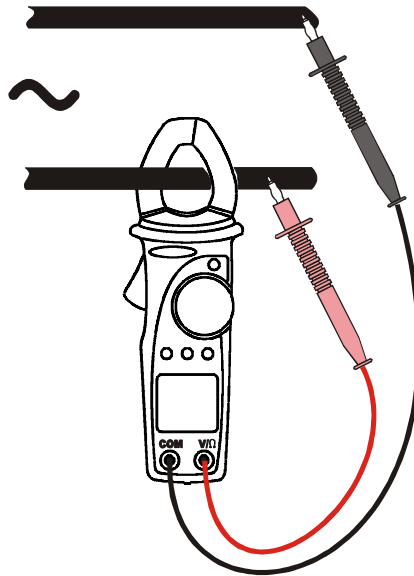

Fig. 12: power and energy measurement on single phase systems
2. Open the jaws and clamp only one cable. Pay attention to the alignment marks (see paragraph 4.1.2. and Fig. 12).
4. Connect the test leads to the circuit under test (see Fig. 12). The measured active power value and the symbol **"AC"** are displayed.
4. Connect the test leads to the circuit under test (see Fig. 12). The measured active power value and the symbol "**AC**" are displayed.